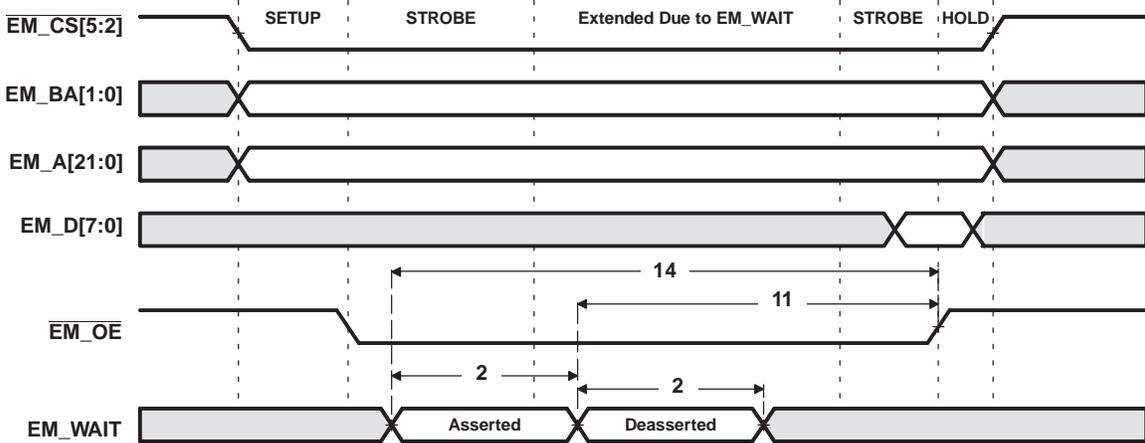
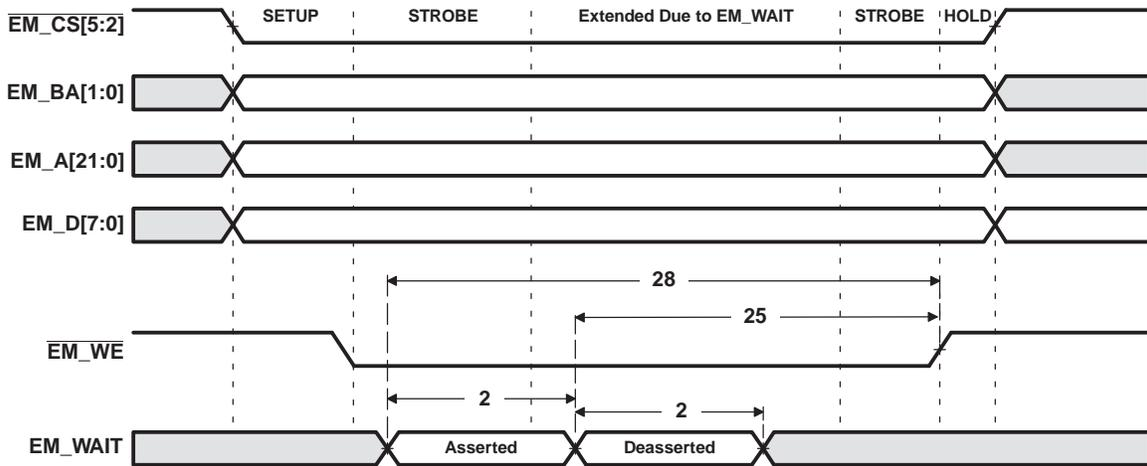

Figure 6-16. EM_WAIT Read Timing Requirements
Figure 6-17. EM_WAIT Write Timing Requirements
- (1) E = SYSCLK3 period in ns for EMIFA. For example, when running the DSP CPU at 600 MHz, use E = 10 ns.
(2) Setup before end of STROBE phase (if no extended wait states are inserted) by which EM_WAIT must be asserted to add extended wait states. Figure 6-16 and Figure 6-17 describe EMIF transactions that include extended wait states inserted during the STROBE phase. However, cycles inserted as part of this extended wait period should not be counted; the 4E requirement is to the start of where the HOLD phase would begin if there were no extended wait cycles.